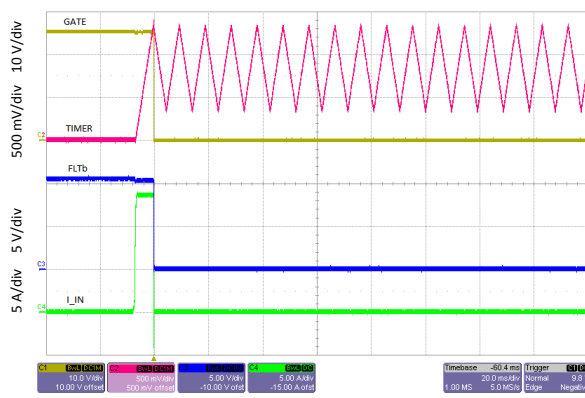

Figure 38. Latch After Overload Fault
- In latch mode (TPS24750), the $TIMER$ pin continues to charge and discharge the attached capacitor periodically until device is disabled by UVLO, EN, or OV, as shown in Figure 38.